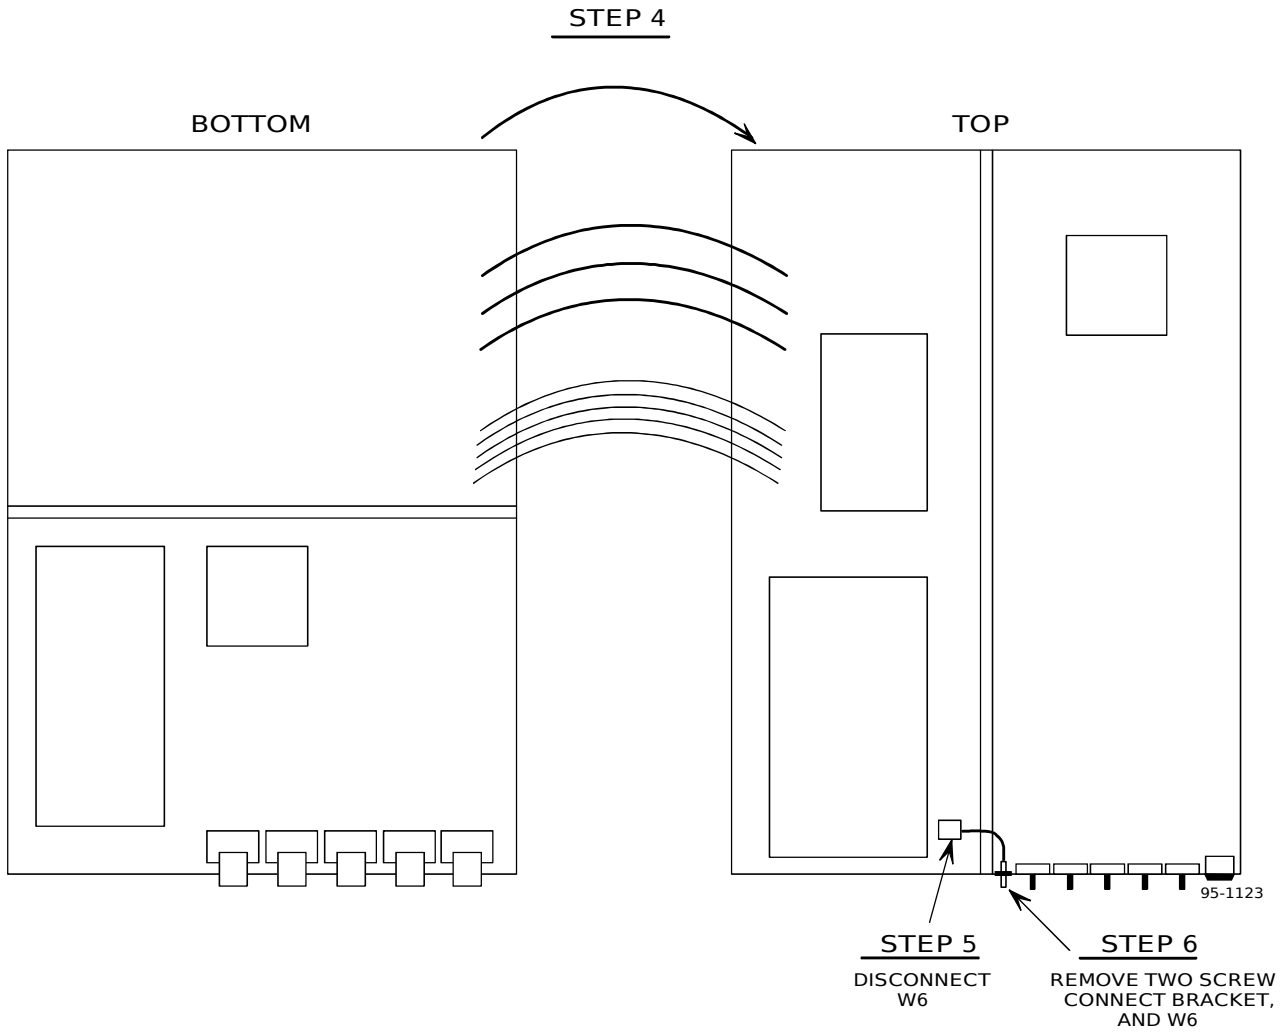

Figure C-2. Opening the Minicaptor and Removing W6
4. Carefully lift the top half of the unit from the bottom half and spread open clockwise, similar to opening a book (see **Figure C-2**).
5. Referring to **Figure C-2**, disconnect cable W6 from the RF Converter module (at J1).